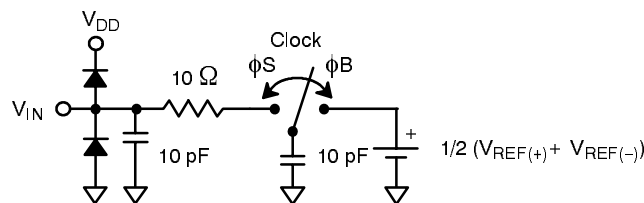

Figure 5. Analog Input Equivalent Circuit
- ⁵ See V_{IN} input equivalent circuit (Figure 5) for high sampling rates. Switched capacitor analog input requires driver with low output resistance.